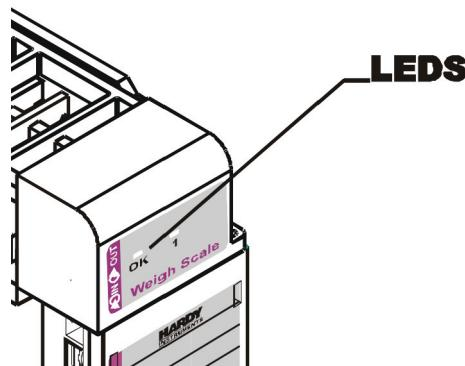

FIG. 4-1 MODULE LEDs HI 1769-WS SINGLE CHANNEL
- Step 2. If there is power to the module, the LED's should be lit. (See Fig. 4-1 and 4-2)